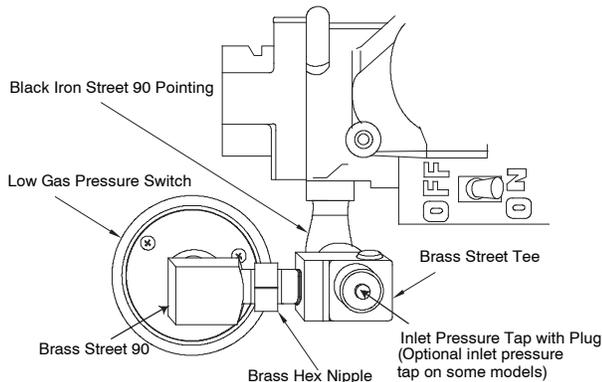
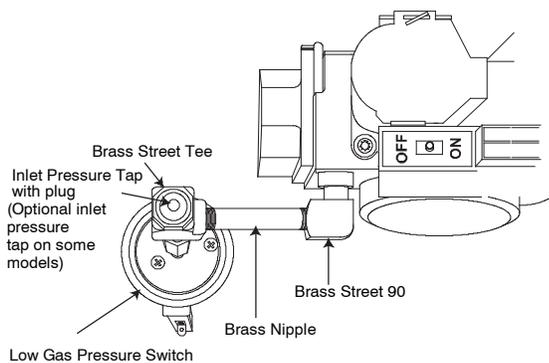

Fig. 11 - Low Gas Pressure Switch - All Widths
Fig. 12 - Alternate Low Gas Pressure Switch - 17 1/2-in. (445 mm) and wider furnaces
If the vent pipe passes between the inducer and burner assembly, or the furnace is a 14 3/16-in. (360 mm) wide casing, install the switch as follows (See Fig. 11):
3. Apply pipe dope sparingly to the male threads of the 1/8-in. brass street tee. Install the male end of the street tee as shown in Fig. 11. One opening on the street tee should face you. The other opening should be parallel with the inlet of the gas valve.
4. Apply pipe dope sparingly to the male threads of the 1/8-in. brass hex nipple. Install the hex nipple into the open end of the brass street tee. See Fig. 11. The hex nipple should be parallel with the boss on the gas valve.
1. If the vent pipe does not pass between the inducer and burner assembly, or the furnace is wider than a 14 3/16-in. (360 mm) wide casing, install the switch as follows (See Fig. 12):
1. On some models, remove 1/8-in. (3 mm) pipe plug from inlet pressure tap (see Fig. 11 and Fig. 12) and insert pressure tap. Or, on some models, loosen set screw on inlet tower pressure tap no more than one full turn with the 3/32-in. hex wrench. (see Fig. 10)